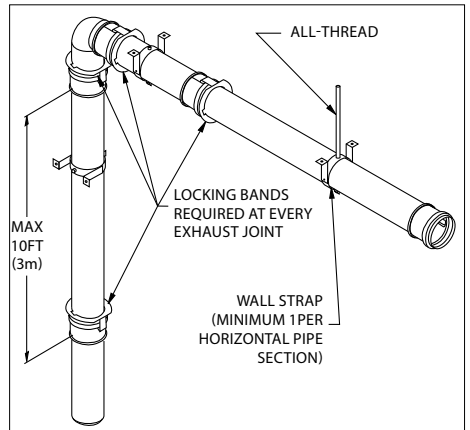

Figure 8
- Vertical installations must be supported every 10 feet (3 meters) or less, **(Fig.8 & 9)**
- Every horizontal section must be supported. **(Fig.8)**
- Elbows and Tees are sufficiently supported when a bracket is fixed at the female end of the connected straight section **(Fig.8)**.